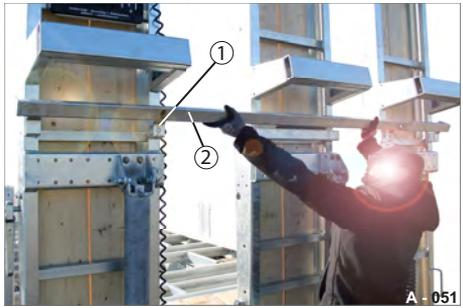

Fig. 73 Removing the cross-bar
► At the same time lift the cross-bar (Fig. 73/2) out of the holders (Fig. 73/1).